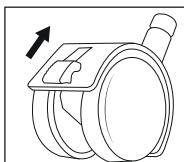

Fig. 5
- ◆ The appliance comes with four castors ⑩/⑪ for easy transport. Release the levers on the two castors with locking levers ⑪ by pushing the levers upwards (see fig 5). The appliance can now be rolled conveniently.